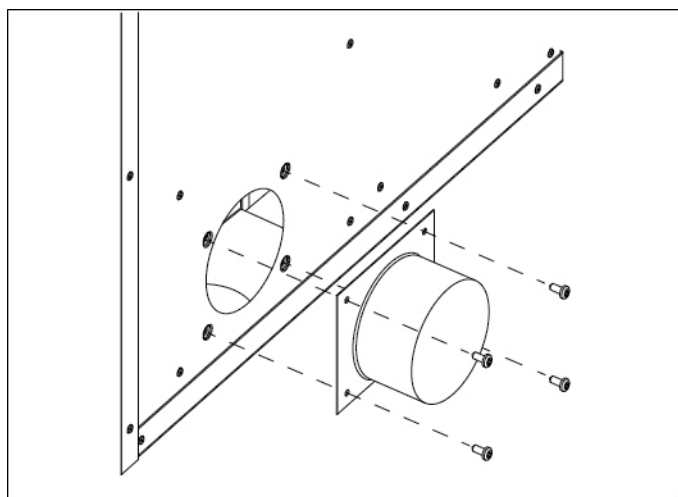

Figure 40
4. Install the adapter over the selected inlet with the 4 screws included (figure 40).